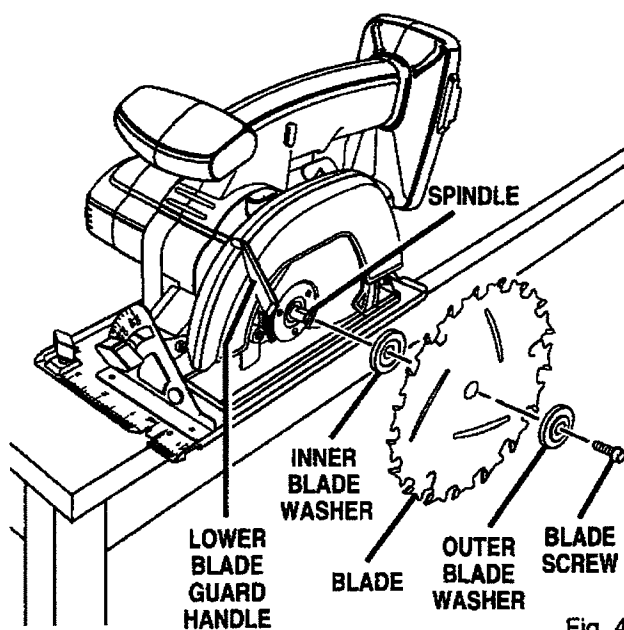

Fig. 4
- Depress spindle lock button and remove blade screw and outer blade washer. See Figure 4.
- Fit saw blade inside lower blade guard and onto spindle. **NOTE:** The saw teeth point upward at the front of saw as shown in figure 4.
- Remove outer blade washer. See Figure 4.